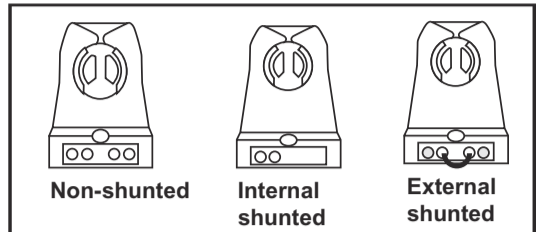

Figure 1.-Lampholder Type
7. Identify what type of lampholders are in fixture (**Figure 1**). If existing lampholder is internally shunted, then replace with new non-shunted lampholder. If lampholder is shunted with a jumper wire(**Figure 2**),remove wire to convert into non-shunted.